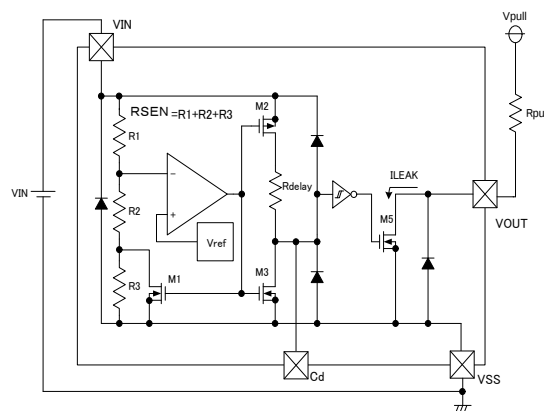

Figure 4: Circuit example of XC6109N Series
6. When N-channel open drain output is used, output voltages V_{OUT} at voltage detection and release are determined by a pull-up resistor tied to the output pin. A resistance value of the pull-up resistor can be selected with referring to the followings. (Refer to Figure 4)